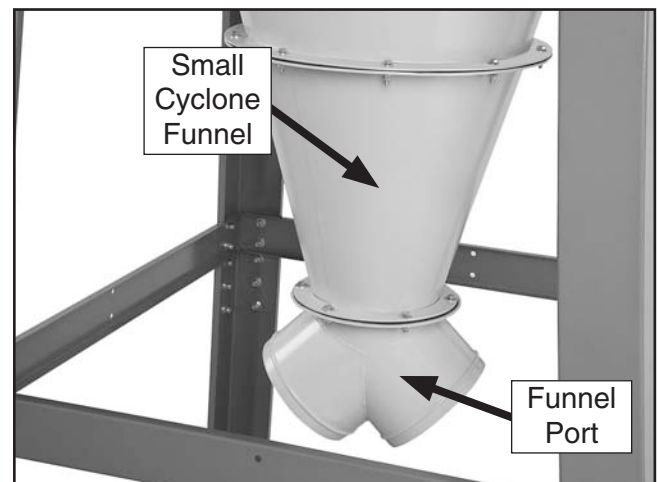

Figure 33. Small cyclone funnel and funnel port attached.
40. Attach the small cyclone funnel and funnel port with (6) 5/16"-18 x 1¼" hex bolts, (12) 5/16" flat washers, and (6) 5/16"-18 hex nuts.
41. With assistance, attach this assembly to the bottom of the large cyclone funnel with (9) 5/16"-18 x 1¼" hex bolts, (18) 5/16" flat washers, and (9) 5/16"-18 hex nuts (see **Figure 33**).